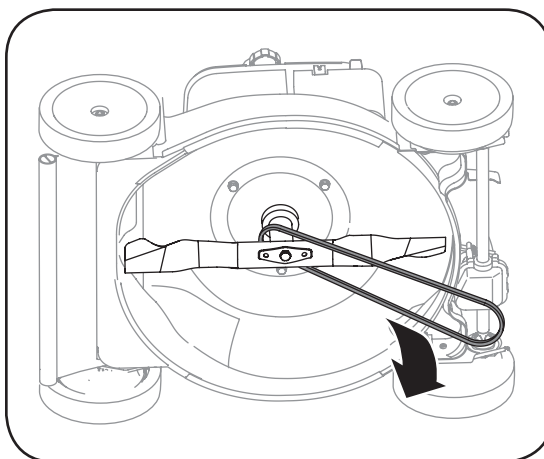

Figure 5-5
3. Push transmission up slightly and slide belt off the transmission pulley. Lift mower to access belt from underside of mower. Slide belt off of engine pulley and around the blade. See Figure 5-5.